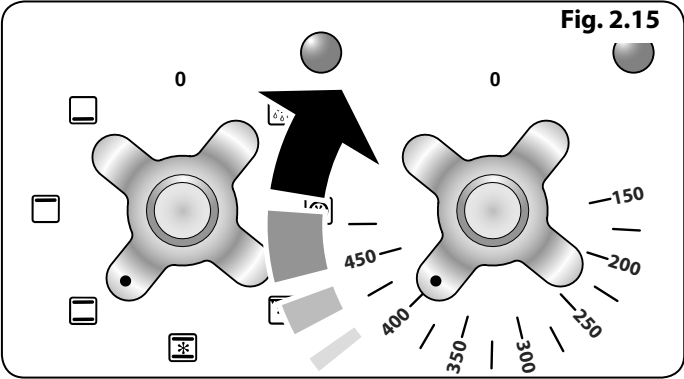

Fig. 2.15
- 2. Turn the function selector control to a cooking function. **Fig. 2.15** shows the control set for convectional oven cooking.
- 3. Turn the oven temperature knob to the temperature required (**Fig. 2.15**).